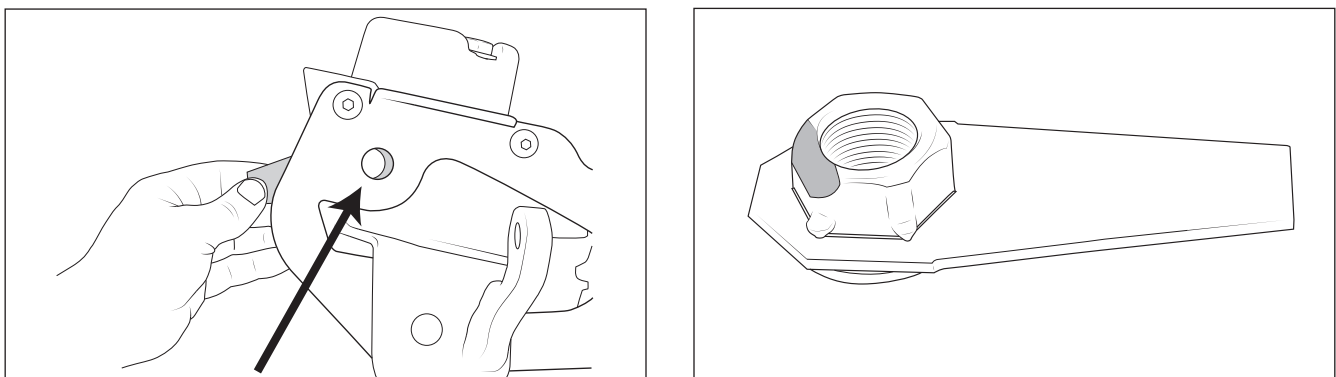

Figure 19
- C. The tab nut off of the frame side track bar bolt will be used for the axle side track bar bolt. The edge will need beveled to fit. Hold it up to the hole and check for clearance and bevel as needed (fig. 19).